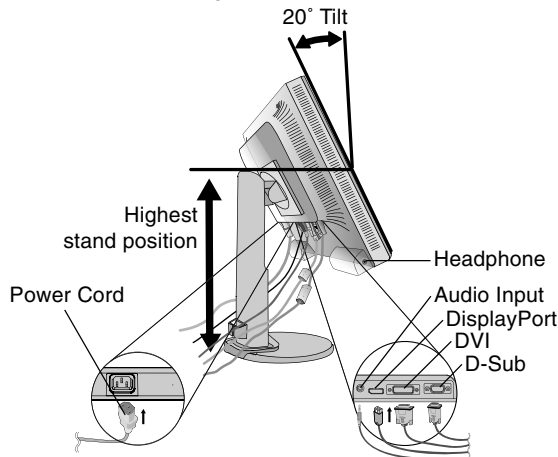

Figure B.1
3. Place hands on each side of the monitor to tilt the LCD panel 20-degree angle and lift up to the highest position (**Figure B.1**).
4. Connect all cables to the appropriate connector on the back of the monitor (**Figure B.1**). Connect the Headphone (not included) to the appropriate connector at the left side of the monitor (**Figure B.1**).